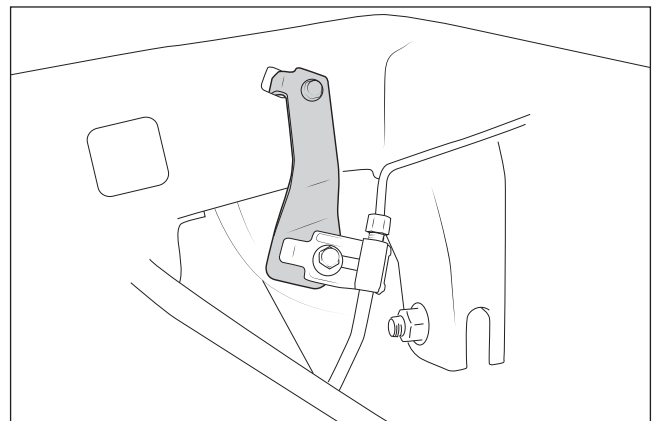

Figure 7
7. Install brake line drop brackets as shown below, tighten to 8 ft lbs. (fig. 7).